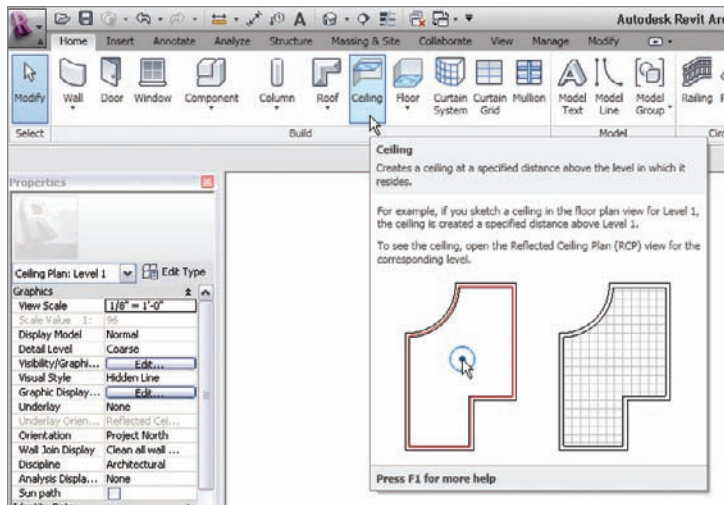

FIGURE 9.2 The Ceiling button on the Modeling tab of the Design bar
2. On the Home tab, click the Ceiling button, as shown in Figure 9.2.